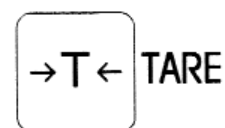

Fig. 8
- 6.3.1 With an empty pallet on the forks, depress the "TARE" key. Refer to Fig. 8. The console will then display **0kg**.